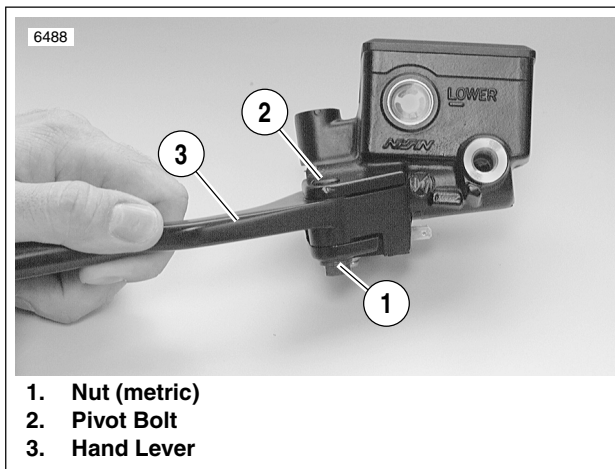
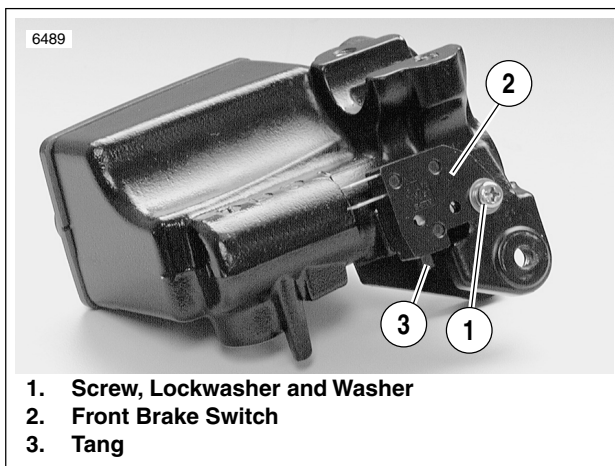

Figure 2-22. Hand Lever
Figure 2-23. Front Brake Switch
1. See Figure 2-22. Detach front brake hand lever.
- a. Remove nut (1) (metric) from lever pivot.
- b. Remove pivot bolt (2) from lever pivot.
- c. Detach front brake hand lever (3) from master cylinder assembly.
2. See Figure 2-23. Remove screw, lockwasher and washer (1) holding front brake switch (2) to master cylinder assembly. Remove switch.
- a. Small end of spring (1) sits behind primary cup (2). Large side of primary cup faces spring.
- b. Secondary cup (3) sits within ridge at middle of piston (4).
2. Insert piston assembly, spring first, into master cylinder. Secure with a **new** snap ring (6).
3. Install ridge on boot (5) into groove on piston (4).
4. See Figure 2-22. Install front brake hand lever.
- a. Align hole in lever (3) with hole in master cylinder assembly.
- b. Lubricate pivot bolt (2) with LOCTITE ANTI-SEIZE.
- d. Install nut (1) (metric). Tighten to **44-62 in-lbs** (5-7 Nm).